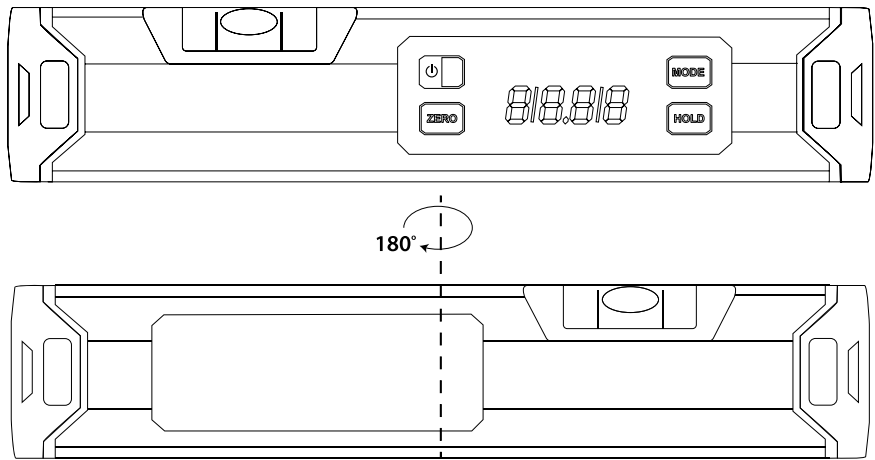

Figure 2
- Press (1) to turn the device off. Place the device on a flat surface. Press and hold (4), and then press (1) until **CAL1** appears on the display.
- Without moving the device, press (4). **CAL1** starts flashing and then changes to **CAL2**.
- Rotate the device 180°, and then press (4). **CAL2** will start flashing. When **CAL2** disappears, the calibration is complete (Fig. 2).